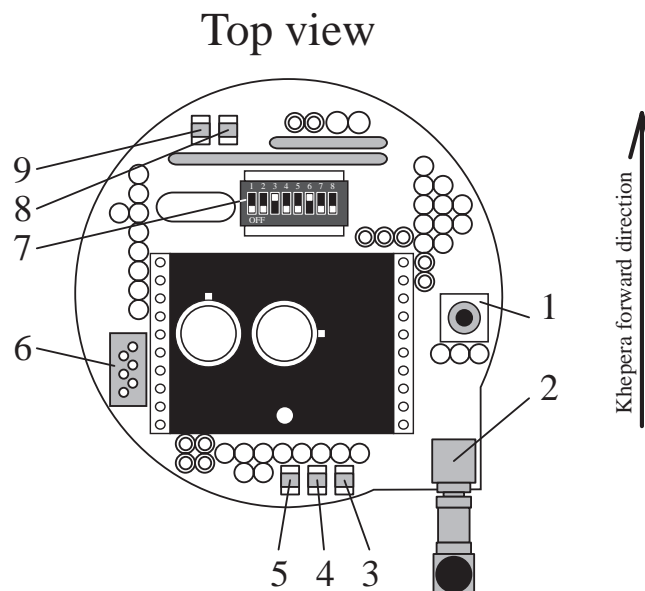
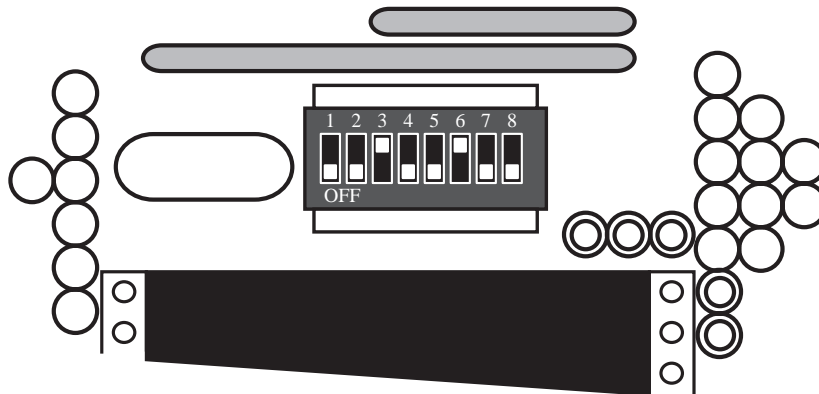

Figure 1: Overview of the turret layout.
Figure 4: Running mode and ID selector
The state of the radio module is visualized on the Rx (receive) LED (item 3 in figure 1) and on the Tx (transmit) LED (item 4 in figure 1).
This protocol process is visualized on the “repeat data” LED (item 8 in figure 1) and “lost data” LED (item 9 in figure 1).
The running mode and the radio turret ID are specified by 6 switches placed on the turret board (item 7 in figure 1, see detailed view in figure 4). Switches 1 to 6 are used for this purpose, switches 7 and 8 are not used and have to be always set to 0.